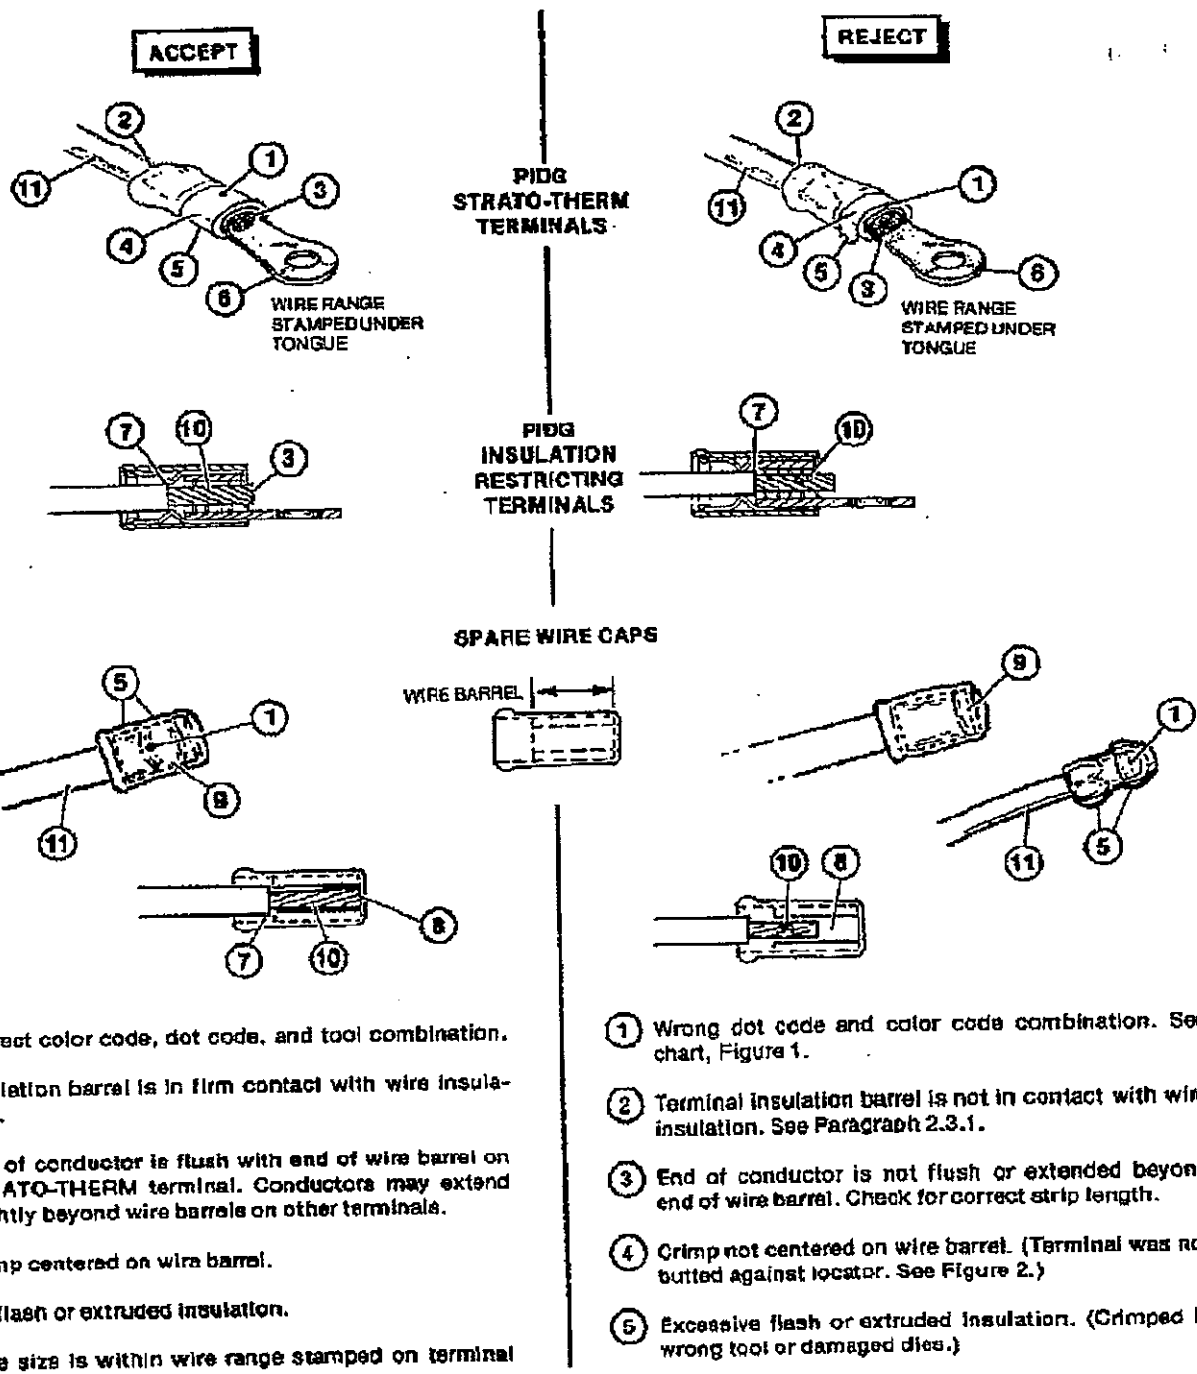

Fig 6
- Refer to Figure 6 for spare wire cap crimp inspection procedure.